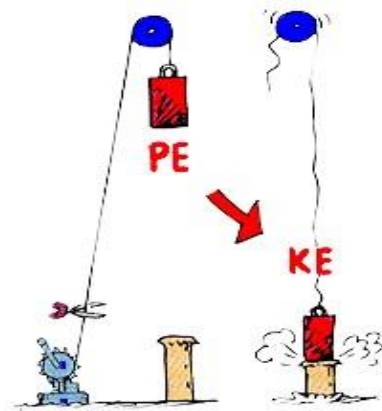

Figure 1.1: Potential energy example
**Potential energy** is the energy stored in an object/body due to its position. Examples of potential energy are, water in a lake in the mountains, or an object held at a certain height as shown in figure 1.1. Gravity gives potential energy to an object.